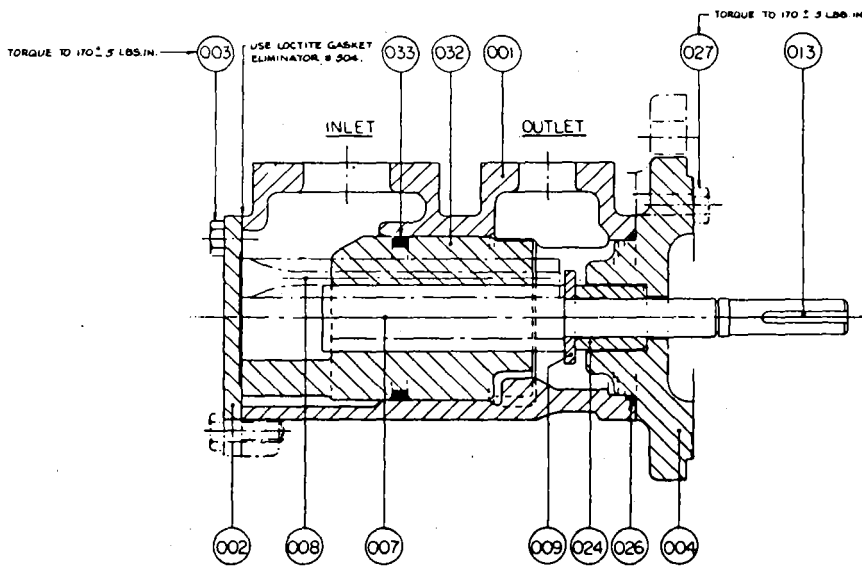

FIGURE 12. Assembly Drawing SC-6140
- (e) **Steel Case Pump Only (Figure 12)**. Remove housing (032) from case (001). Remove O-ring (033) from groove of housing (032).
- (a) **Steel Case Pumps Only (Figure 12)**. Install O-ring (033) in groove of housing (032) and install housing (032) in case (001), ensuring that anti-rotation groove in housing (032) is aligned with anti-rotation boss in case (001).